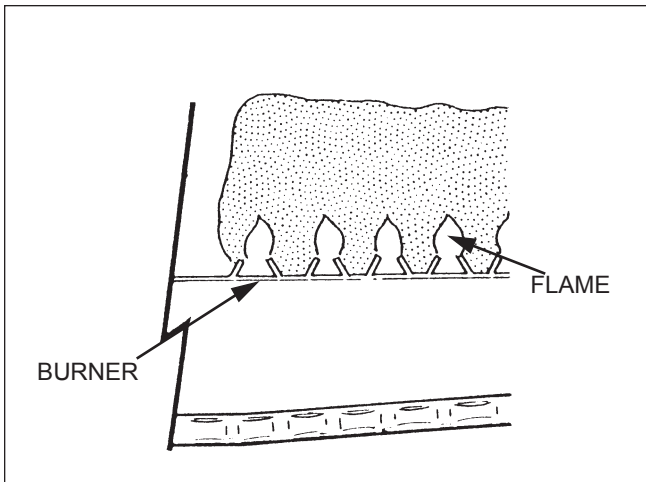

Figure 26. Main Burner Flame
- b. 1 to 4 inches (25mm to 102mm) above burner surface (see Figure 26).